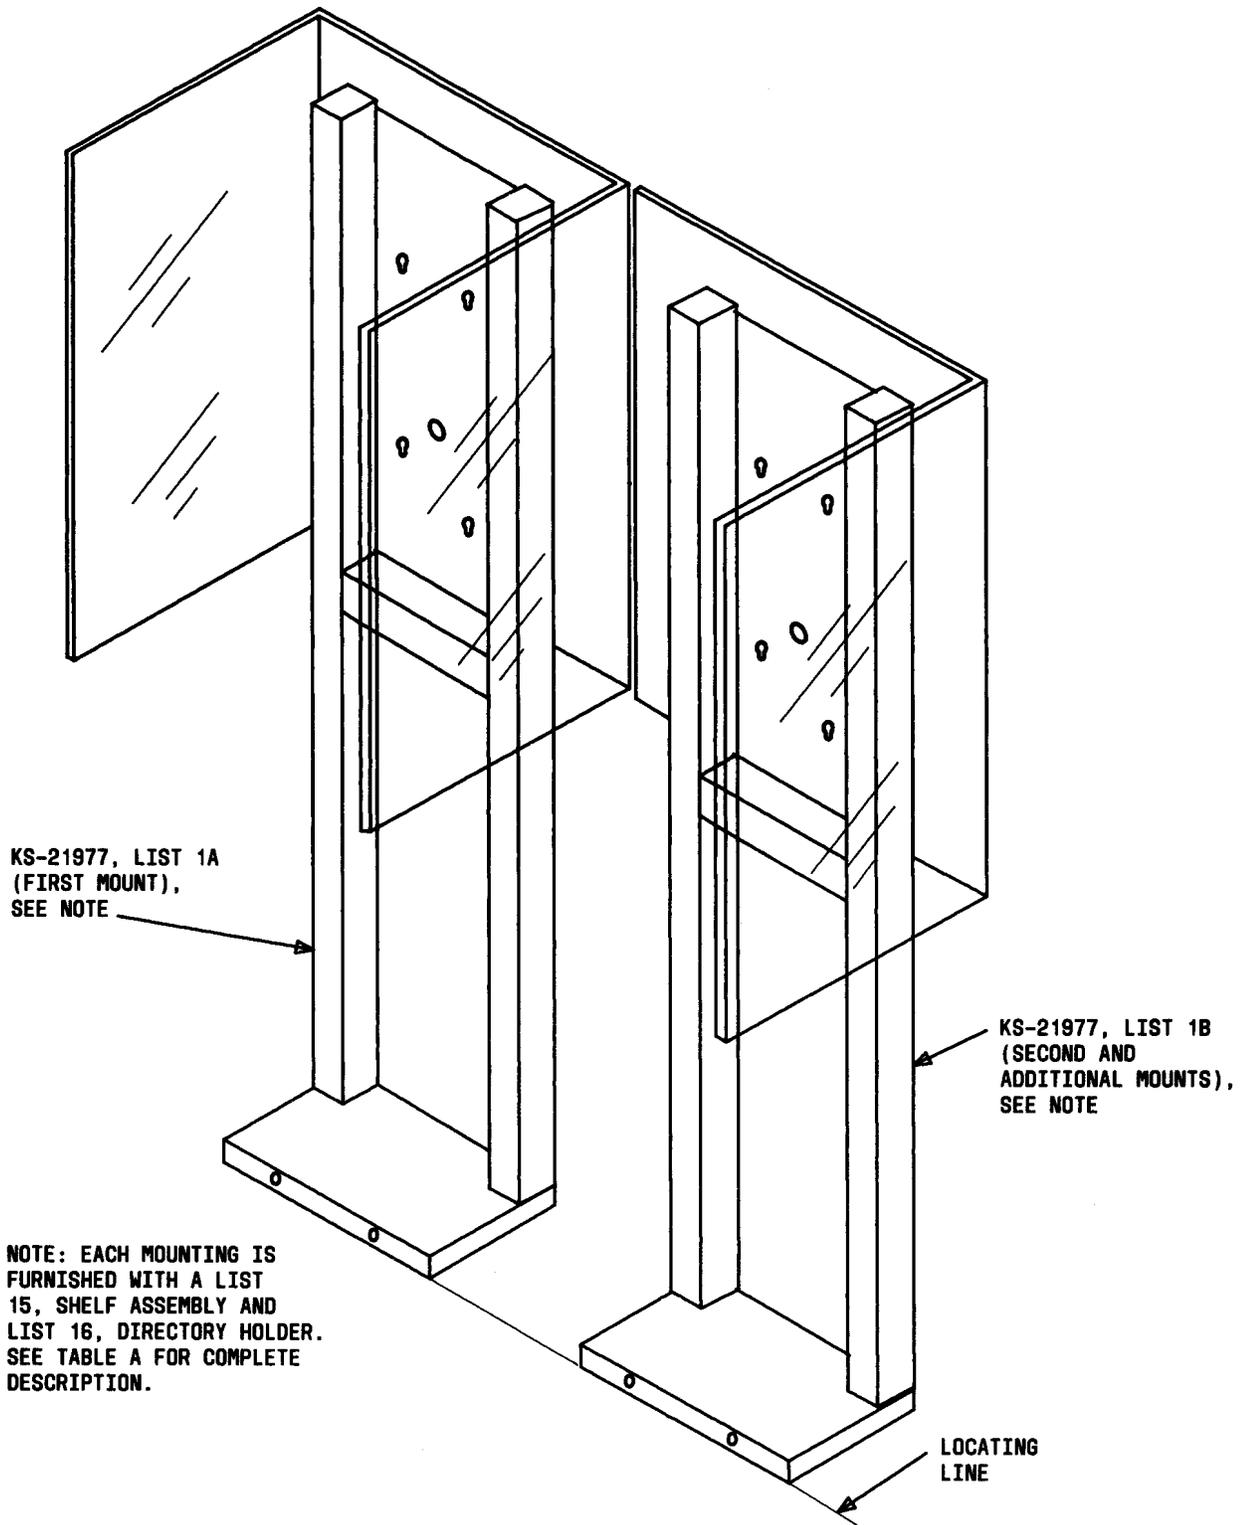

Fig. 3—Post Mountings, Side-By-Side
**Note:** When installing post mounts side-by-side, the left end unit as viewed from the front will be designated the first unit and will be a List 1A (see Table A). The second and subsequent units will include a List 2 (Fig. 3).